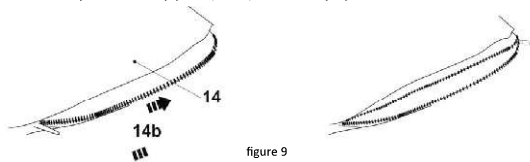

figure 9
- Open the zipper (14b) and empty the waste into a trash container (figure 9).